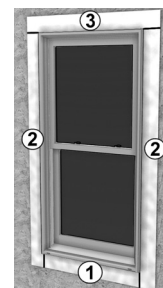

Figure 4
- (Recommended)** Following the flashing manufacturer's recommendations, apply flashing to the nail fins and surrounding wall surface starting with the bottom, then the sides, and finally the top, creating a shingle effect (reference **Figure 4**). **▲ NOTE: Where pan flashing is present, do not use flashing that will impede proper drainage of the pan on the bottom.**